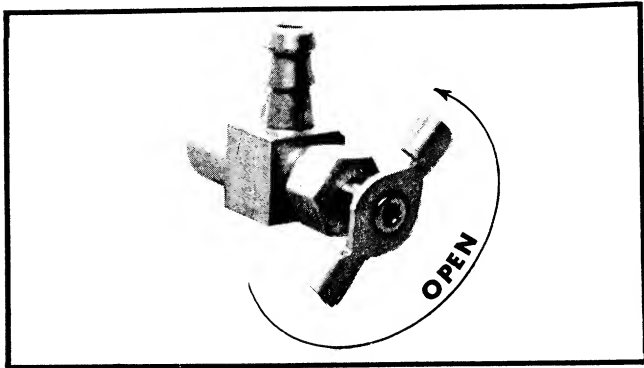

FIGURE 10. FUEL SHUT OFF VALVE
3. Open fuel shut-off valve located under the gasoline tank. See Figure 10.